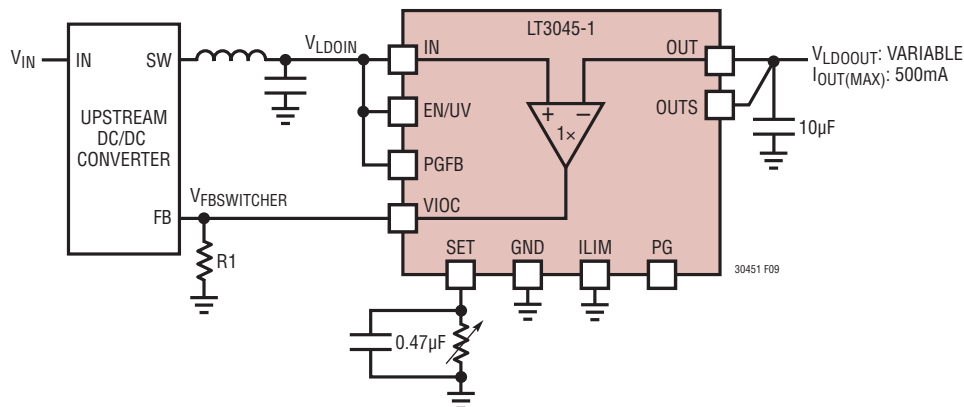

Figure 9. VIOC Basic Operation
The VIOC pin is used to control an upstream switching converter (e.g. buck, boost, buck-boost, etc) to maintain a constant voltage across the LT3045-1, regardless of the LDO's output voltage. This maximizes efficiency while maintaining PSRR performance. The VIOC pin is the output of a fast unity-gain amplifier that measures the difference between IN and OUT or 1.5V, whichever is higher. As shown in Figure 9, the VIOC feature is simple to use. Just tie the VIOC pin to the upstream switching converter's feedback (FB) pin, and this will regulate the LT3045-1's input-to-output differential to the switching converter's feedback voltage. When paralleling multiple LT3045-1s, tie the VIOC pin of one of the LT3045-1 to the upstream switching converter's feedback pin and float the remaining VIOC pins.